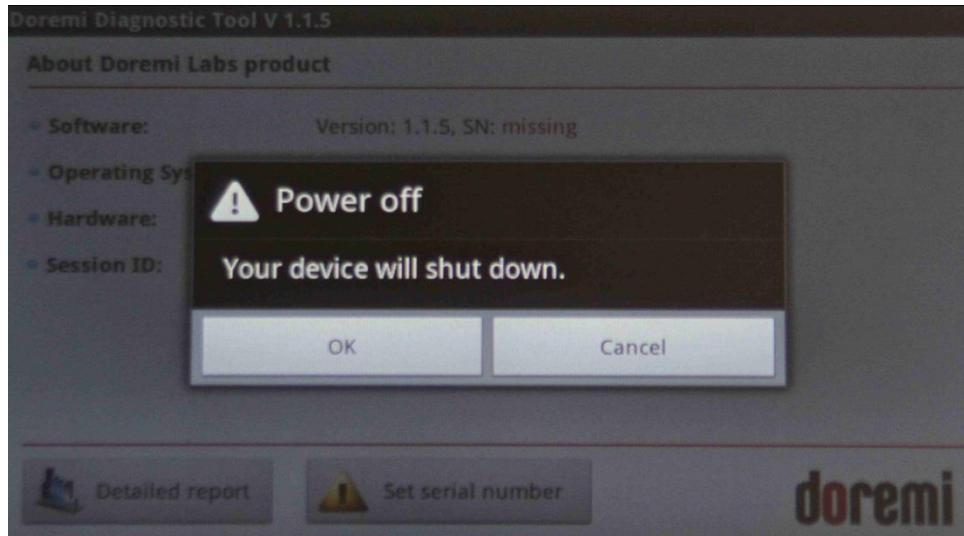
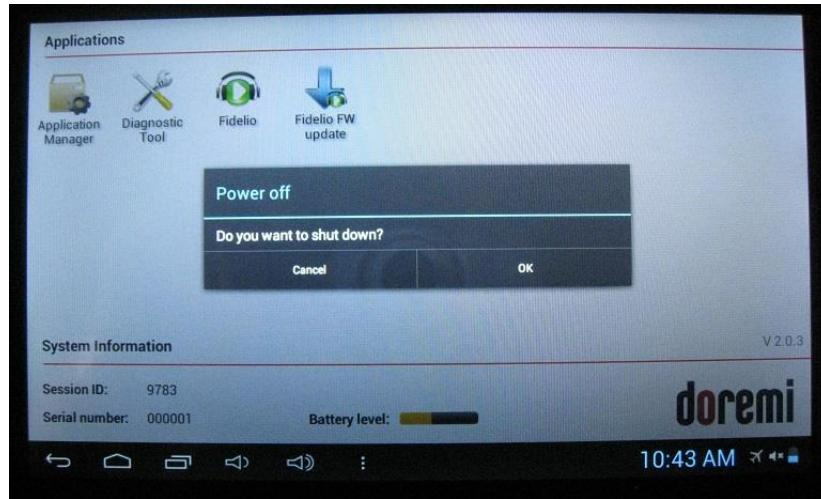

Figure 29: Power Off OK Button - Tablet v1.1.2
Figure 30: Power Off OK Button - Tablet v2.2.0
- Depress the Power Off selection and then press the OK button to complete the process (Figure 29 – v1.1.2; Figure 30 – v2.2.0).